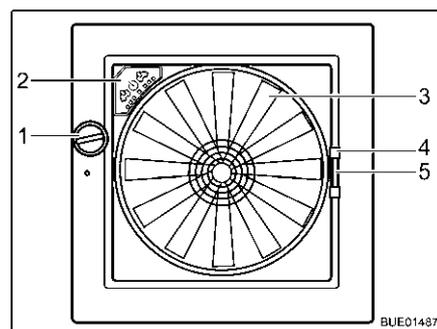

Fig. 124 Skylight Omni-Vent
- Turn the knob (Fig. 124,1) until the desired opening angle is reached.
- Turn the knob (Fig. 124,1) until the skylight is fully closed.
- Using the handle (Fig. 124,4) pull the insect screen across to the other side of the frame.
- Press together the handle (Fig. 124,5) of the shade.
**Fan** If the skylight is open, the interior can be ventilated with the 6-speed fan (Fig. 124,3). The fan is operated via the operating panel (Fig. 124,2).